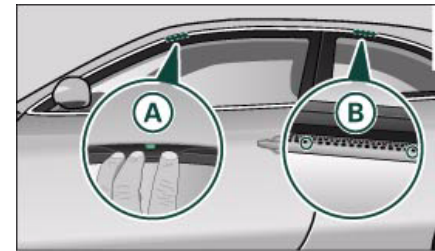

Fig. 92 Attachment points for carrier units
The front feet of the carrier units must be fitted exactly onto the locating pins (A) between the side frame and the roof frame trim ⇒ fig. 92. The pins come into view when you push the sealing lip back off the roof frame trim using the tool supplied with the roof carrier. The rear attachment points (B) are marked by two small arrows on the top edge of the side window. ■